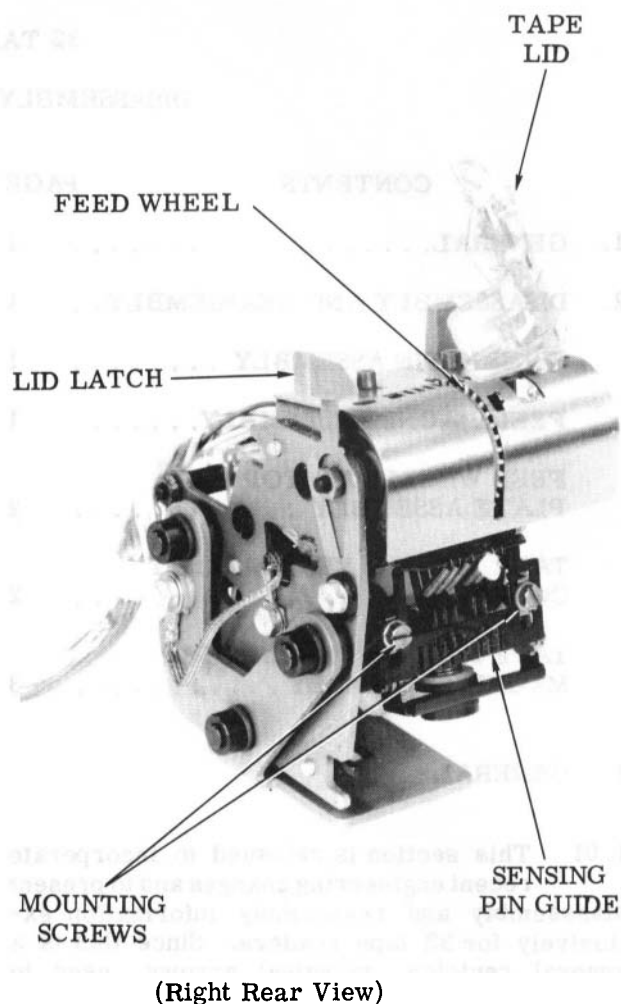

Figure 2 - Tape Reader (Without Cover)
2.01 To remove the sensing pin assembly (Figure 2), proceed as follows.